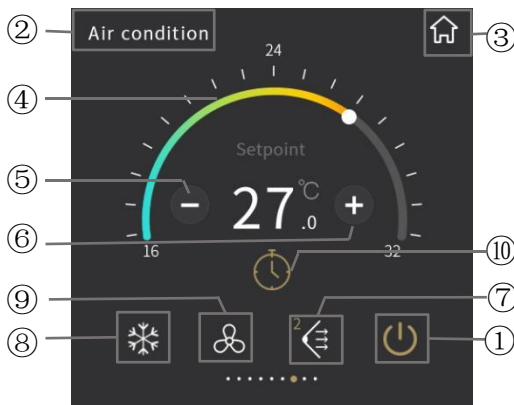
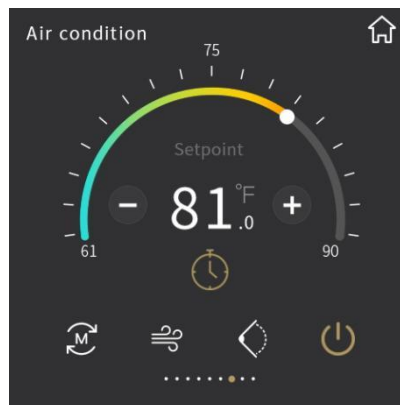

Fig.2.4.1
Fig.2.4.2
- ② This area displays the page description identification of Air-Conditioner control, user can define the description through ETS;
- ③ Return to Home page by touching this icon;
- ④ Adjust the setting temperature by sliding this ring slider;
- ⑤ The function of this icon is to decrease the temperature;
- ⑥ The function of this icon is to increase the temperature;
Adjusting the temperature by sliding the ring slider④ or touching the icon⑤ and icon⑥. For each touching of icon⑤ and icon⑥, the adjustment range is 1.0 degrees. When the setting temperature unit is set to degrees Celsius(°C), as shown in Fig.2.4.1, adjustment range of the setting temperature is 16~32°C by default; when the setting temperature unit is set to Fahrenheit(°F), the current temperature value will automatically convert to Fahrenheit value, as shown in Fig.2.4.2, adjustment range of the setting temperature is 61~90°F by default. The temperature adjustment range can be modified through parameter setting.
Under fixed vanes position, select one of the 5 options (#1, #2, #3, #4, #5) for vanes position, for instance, select #2, interface as shown in Fig.2.4.3, then touch the area outside the sub-window to return the previous level function page, the position selected will be shown on the function page, as shown in Fig.2.4.1. For vanes swing, because vanes position change all the time, there would be no fixed position, only display character "Swing" on the interface.
Vanes swing function set to be disable or enable by parameter configuration. When disable, there will be no vanes fixed/swing item shown on the interface, as shown in Fig.2.4.1; when enable, vanes position can be adjusted.
⑩ **Turn on timer function by touching this icon;**
Icon⑩ on indicates timer turn on; icon⑩ off indicates timer turn off. Timer function can be enabled via the parameter configuration. When timer function is disabled, there would be no timer icon as shown as Fig.2.4.1 on the interface; when enabled, timer can be configured.